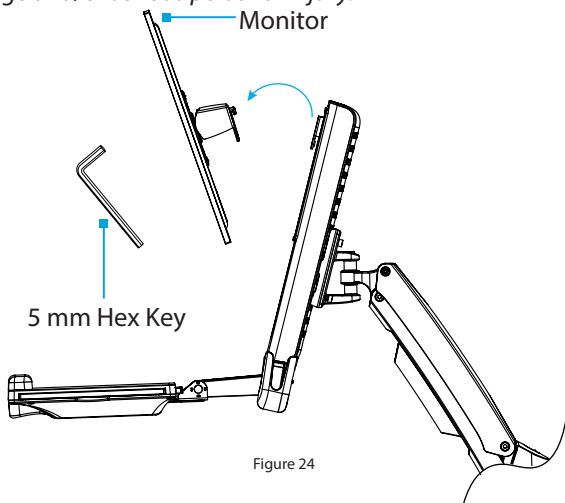

Figure 24
3. Lift the **VESA Monitor Mount** off the **Plate**, located on the **Column**. (Figure 24)